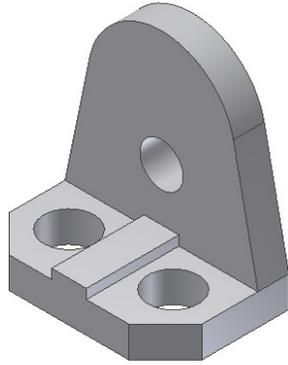

Figure 5-87 Final model for Tutorial 1
4. Clear the **Check to terminate feature on the extended face** check box and then choose the **OK** button. Alternatively, choose **OK** from the mini toolbar. The final model for Tutorial 1 is shown in Figure 5-87.